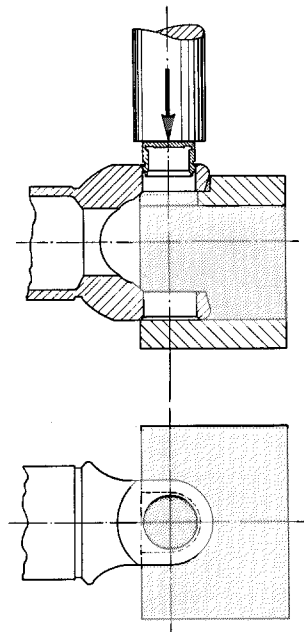

Fig. 41 — 4/7
40. Install the spider, with pinion rim grease fitting screwed in and with new pressed-cork seals (3), into the needle bearing bushing which is pressed in halfway (see Fig. 41 — 4/9).